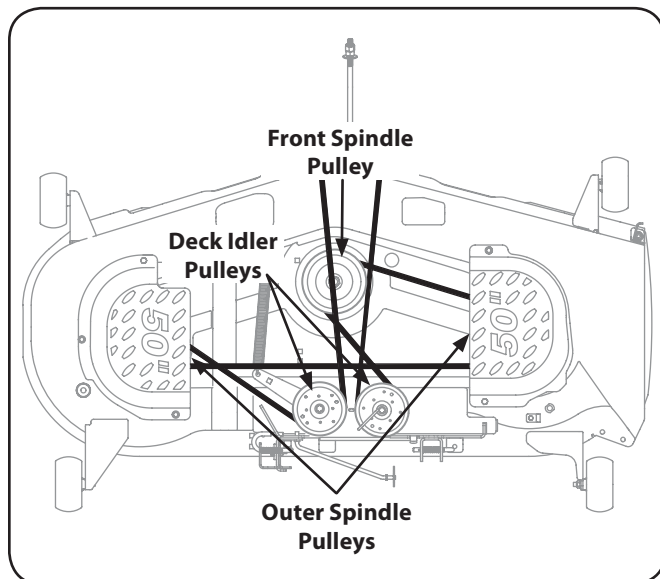

Figure 7-11
5. **On 50" Decks:** To place the new belt, begin by routing the belt around the two outer spindle pulleys, then around the front spindle pulley as shown in Fig. 7-11.
6. Then route the belt around the two deck idler pulleys as shown in Fig. 7-11.